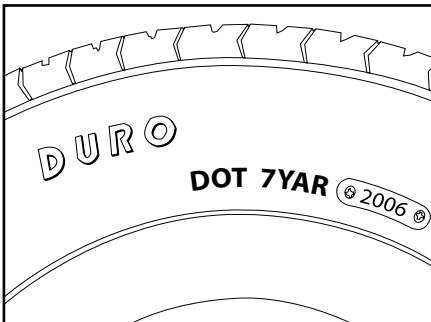

Figure 1: Tire manufacturer name either (Duro, Kenda/Loadstar, Carlisle) & Tire Identification Number (TIN)
Step 1: To help you in locating the Tire Identification Numbers (TIN) and other important information about your tires, please refer to Figure 1 on pg. 3.
Step 5: Locate the stamped numbers on your tires sidewall that immediately follow the letters DOT. (Figure 1). Note the series of numbers and letters on your Registry in the Tire Identification Numbers section. Check each tire and indicate in the QTY section the number of tires having the same lot number on the sidewall.